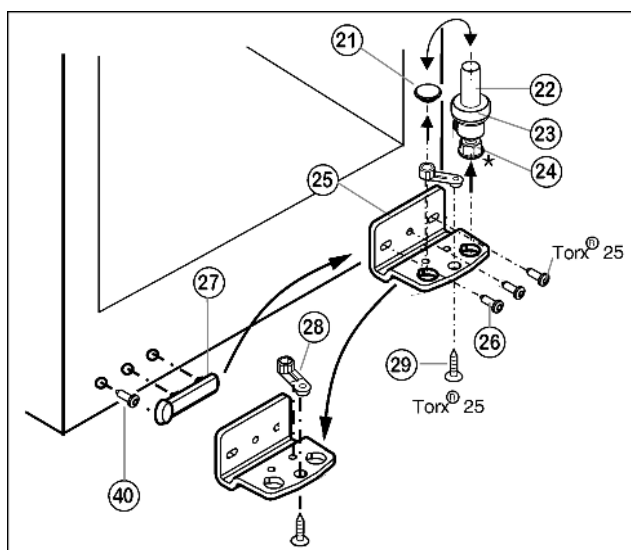

Fig. 5
- Lift out the bearing pin Fig. 5 (22) together with washer Fig. 5 (23) and adjustable-height foot* Fig. 5 (24).
- Lift off the stopper Fig. 5 (21).
- Unscrew Fig. 5 (26) the turn hinge Fig. 5 (25).
- Unscrew Fig. 5 (29) the bearing element Fig. 5 (28), transfer it to the opposite location hole of the turn hinge and screw it firmly into place.
- Carefully lift off the cover on the handle side Fig. 5 (27), undo the screw Fig. 5 (40) and transfer both to the opposite side.
- Screw the turn hinge Fig. 5 (25) firmly into place on the new hinge side, possibly using a cordless screwdriver (with 4 Nm).
- Re-insert the stopper Fig. 5 (21) into the other hole.
- Re-insert the bearing pin Fig. 5 (22) together with the washer and adjustable-height foot*. In so doing, pay attention that the locating lug points backwards
- Place the door from above onto the lower bearing pin Fig. 5 (22).
- Align the door to the appliance housing by way of the two oblong holes in the bottom turn hinge Fig. 5 (25). To do so, unscrew the middle screw.